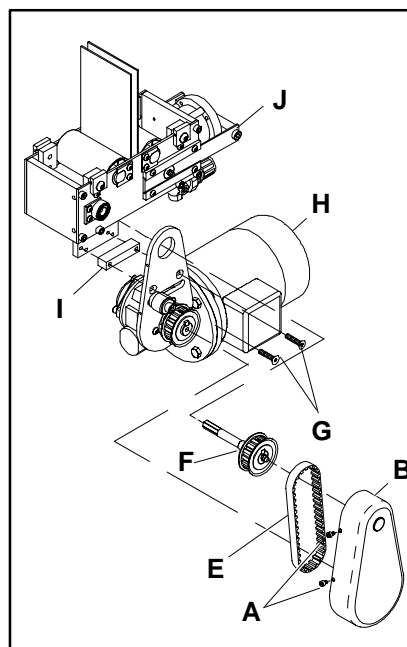

Figure 9
Carefully and adequately support the gearmotor and remove the two (2) flat head screws (G of Figure 9) which secure the gearmotor and drive sub-assembly (H) and spacer (I) to the center drive module (J). Then, place the gearmotor and drive assembly to the side.
Refer to Figure 9 on page 5 and replace and re-secure the gearmotor and drive sub-assembly (H of Figure 9) and spacer (I) to the center drive module (J) using the two (2) flat head screws (G).